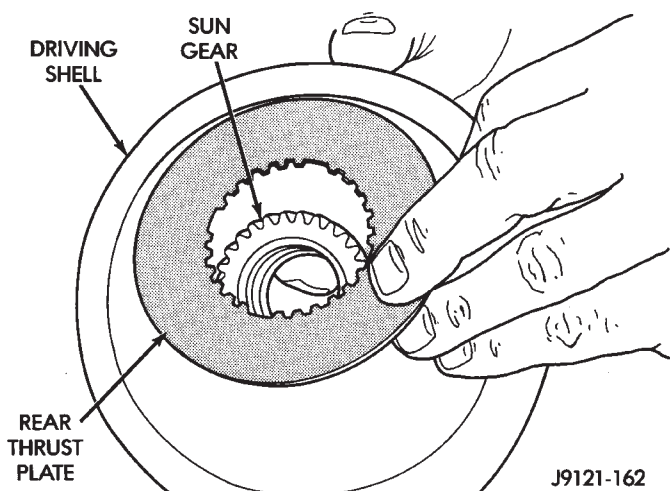

Fig. 233 Installing Driving Shell Rear Thrust Plate
(9) Hold sun gear in place and install thrust plate over sun gear at rear of driving shell (Fig. 233).